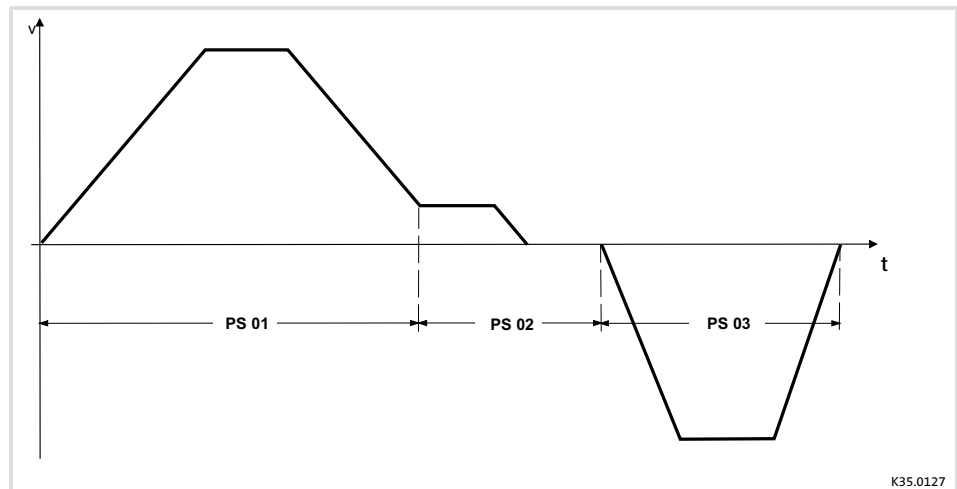
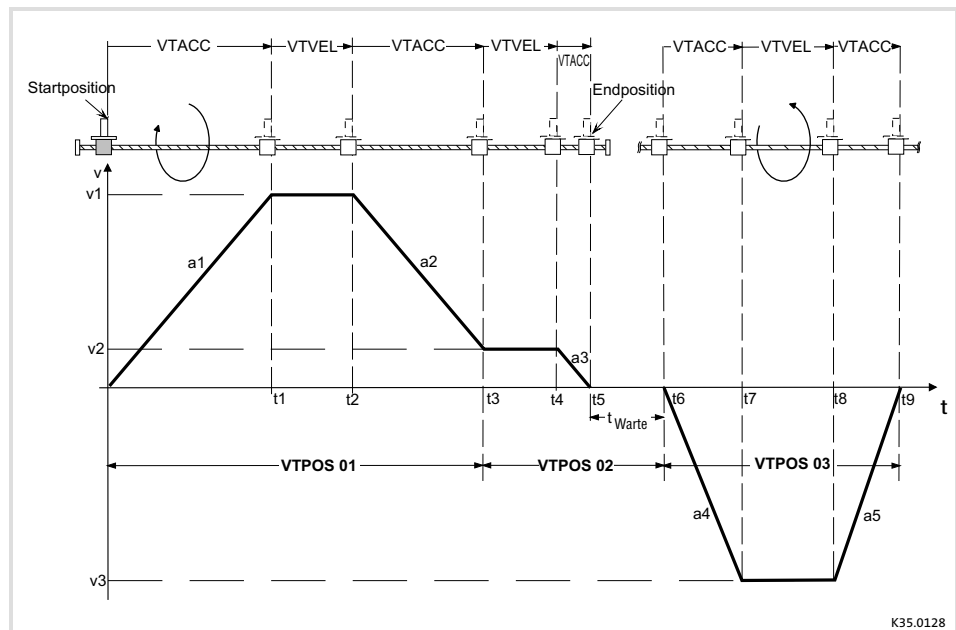

Fig. 6.11-2 Travel profile: Example of a point-to-point positioning
Fig. 6.11-3 Travel profile: Example of a point-to-point positioning with the PS required
PS01, PS02, PS03 For the travel profile in Fig. 6.11-2 three program sets (PS) are required for entering all parameters.
- ▶ Create a travel profile of your drive task, e.g. as shown in Fig. 6.11-2 or Fig. 6.11-3.
- ▶ The parameter data for the travel profile are saved in program sets (PS).